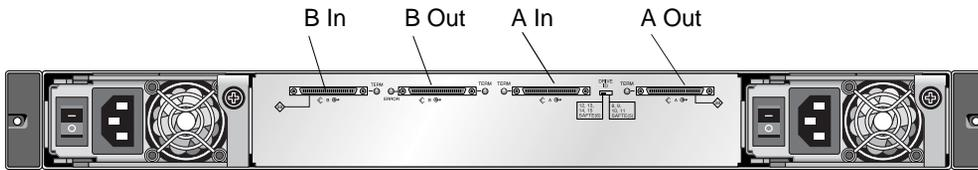

FIGURE 2-6 Sun StorEdge 3120 SCSI Array Port Names
1. To configure a JBOD unit as a single-bus configuration, connect the SCSI jumper cable between SCSI ports labeled with the SB icon, the B In and A Out ports as shown in FIGURE 2-6. Tighten the cable jack screws with six full clockwise turns to ensure proper connection and operation.